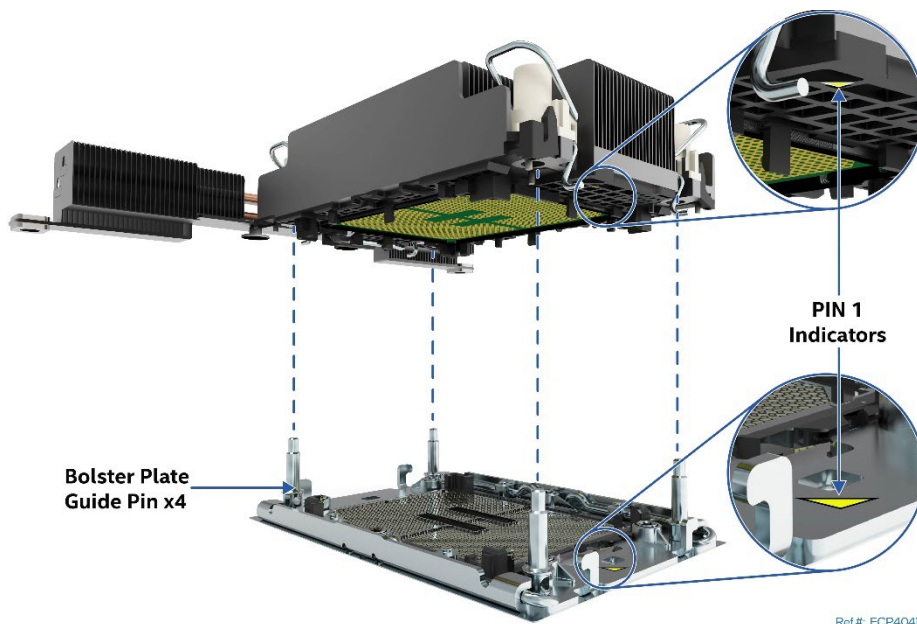

Figure 95. PHM Alignment with Socket Assembly
3. Align the Pin 1 indicators of the processor carrier clip and processor with the Pin 1 indicator on the bolster plate located around the processor socket (See Figure 95).